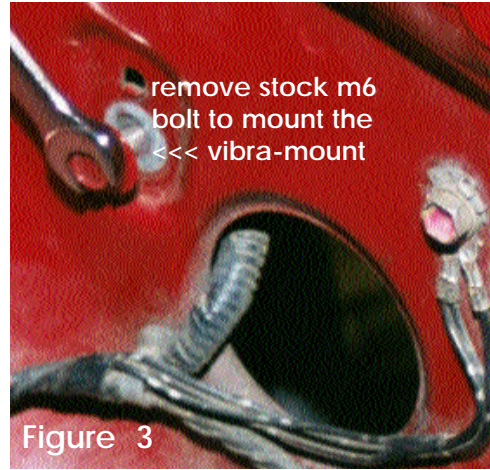

Figure 3
3. Remove m6 bolt from the fender wall and screw the vibra-mount in place as seen in figures 3 and 4.